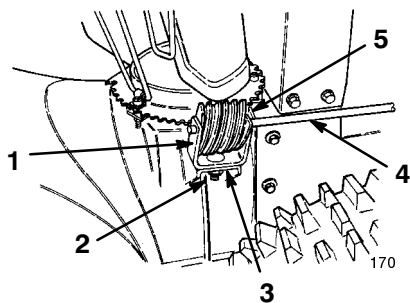

Figure 8
- Insert the one-inch (2.5 cm) carriage bolt into the gear bracket mounting hole (Fig. 8).
- Position the worm gear into the bracket, align the holes, and insert the chute gear rod through the bracket and the gear (Fig. 8).
- Loosely mount the worm gear and the bracket to the mounting flange with the carriage bolt, a flat washer, and a locknut (Fig. 8).
- Slide the worm gear into the teeth of the chute gear and tighten the locknut (Fig. 8).